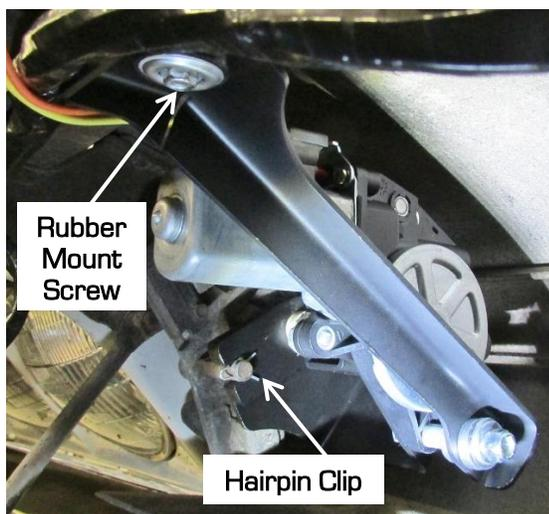

Figure 5 – Install Motor Assembly
12. Install the assembly onto the driver's side headlight door pivot shaft. Move the headlight door by hand until the rectangular part of the shaft can be inserted into the rectangular hole in the motor pitman arm. Line up the slot in the motor bracket with the hairpin clip shaft and slide the actuator assembly in place. Install a hairpin clip (Item 7) on the shaft and a rubber mount screw (Item 6) into the rubber mount, attaching it in the same location as the original motor (Figure 5). Repeat this procedure to install the passenger's side actuator assembly (Item 2). **NOTE: Do not attempt to move the pitman arms on the actuators by hand as this could cause permanent damage to the actuators.**